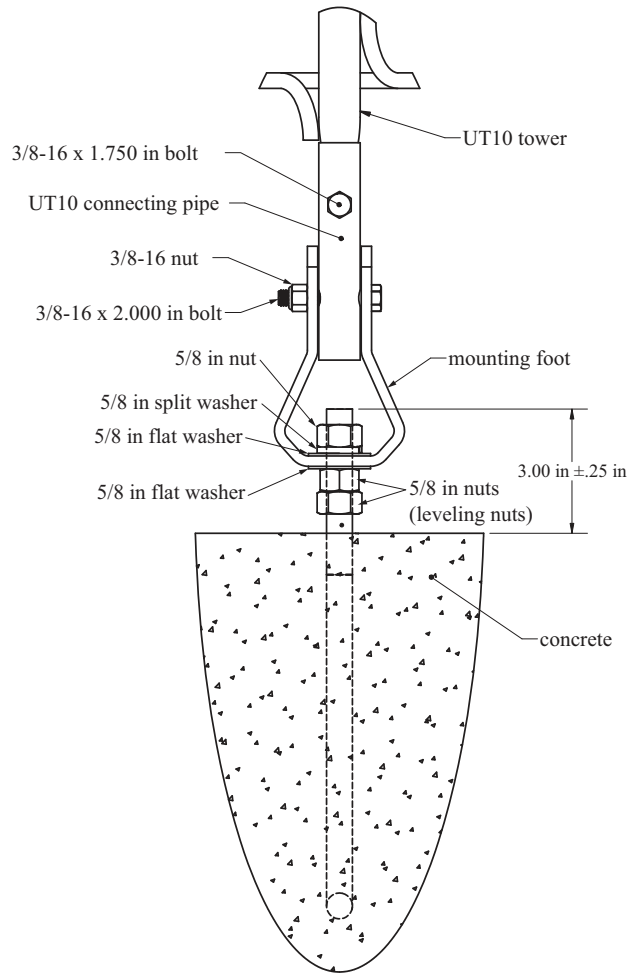

FIGURE 2-6. UT10 Mounting Foot Detail View
5. Place a 5/8 in flat washer, a 5/8 in split washer, and 5/8 in nut on each j-bolt. Do not tighten the nut (FIGURE 2-6).